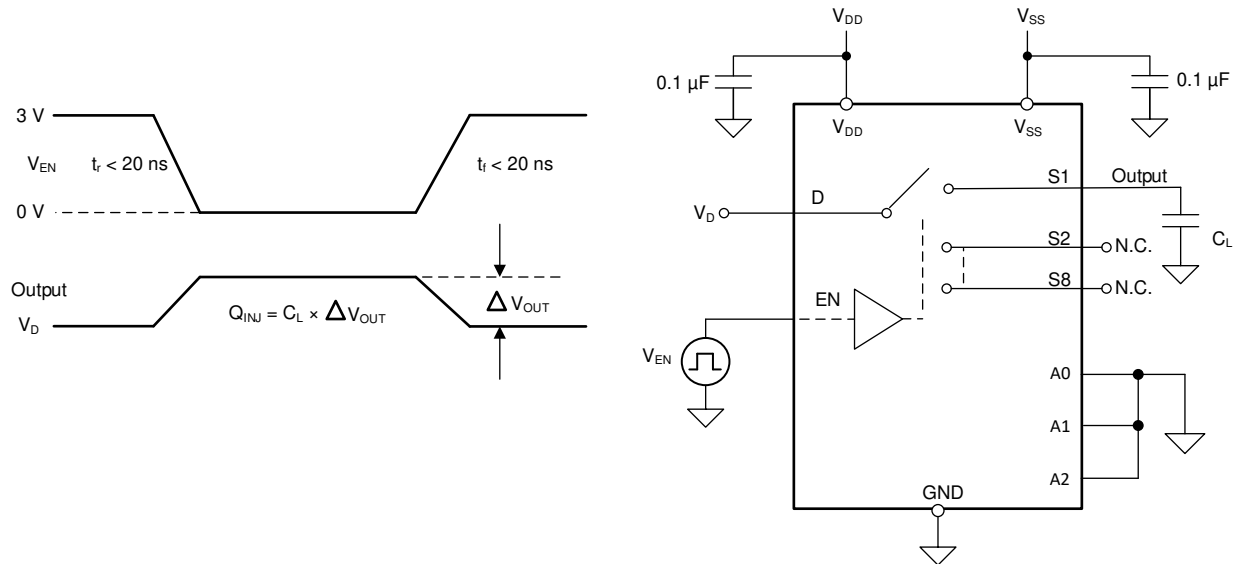

Figure 7-9. Charge-Injection Measurement Setup
The TMUX7208M has a transmission-gate topology. Any mismatch in capacitance between the NMOS and PMOS transistors results in a charge injected into the drain or source during the falling or rising edge of the gate signal. The amount of charge injected into the source or drain of the device is known as charge injection, and is denoted by the symbol Q_{INJ} . Figure 7-9 shows the setup used to measure charge injection from source (Sx) to drain (D).